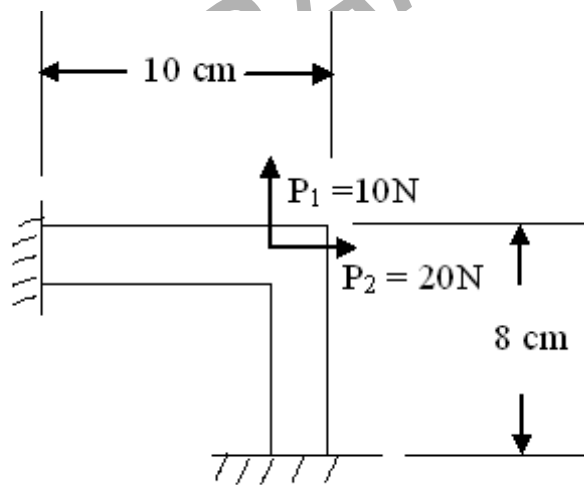

Figure 5
5. Give a detailed method of finding the stresses in the frame shown in the figure 5